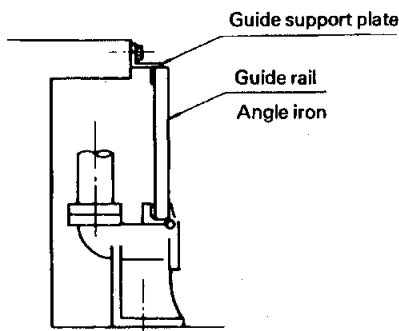

Fig. 3 Model LS
- (3) Secure the guide rail or guide pipe, whichever is provided, using guide support plate for vertical alignment. (See Figs. 3,4)